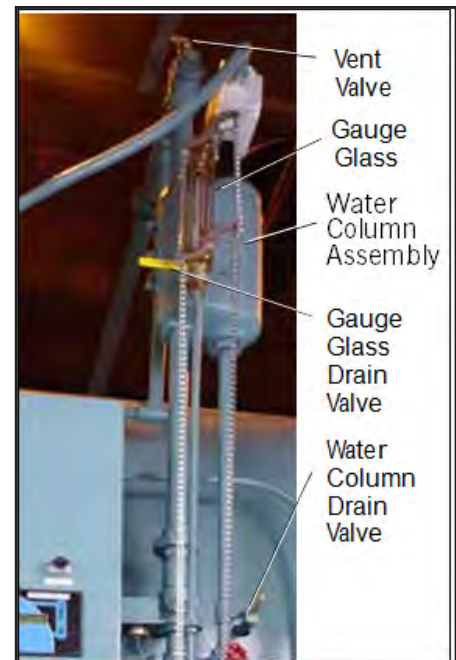

FIGURE 1-6. Water Column
5. Water Column Assembly (**Figure 1-6**): Houses the low-water cutoff and pump control and includes the water gauge glass, gauge glass shutoff cocks.
6. Water Column Drain Valve (**Figure 1-6**): Provided so that the water column and its piping can be flushed regularly to assist in maintaining cross-connecting piping and in keeping the float bowl clean and free of sediment. A similar drain valve is furnished with auxiliary low-water cutoff for the same purpose.
7. Water Gauge Glass Drain Valve (**Figure 1-6**): Provided to flush the gauge glass.
8. Vent Valve (**Figure 1-6**): Allows the boiler to be vented during filling, and facilitates routine boiler inspection as required by ASME Code.